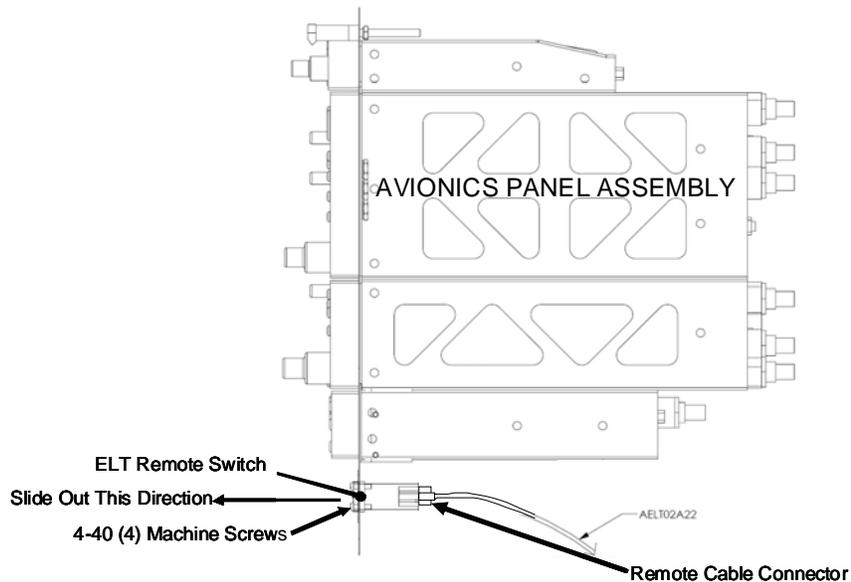

Figure 25-17 Location of the Remote ELT Switch and its Removal
3. Remove four (4) 4-40 machine screws securing remote switch to the avionics panel. Refer to Figure 25-17 for screw locations.
2. Locate and connect remote cable to switch jack. Refer to Figure 25-17.
4. Install four (4) 4-40 machine screws securing the remote switch to the avionics panel.